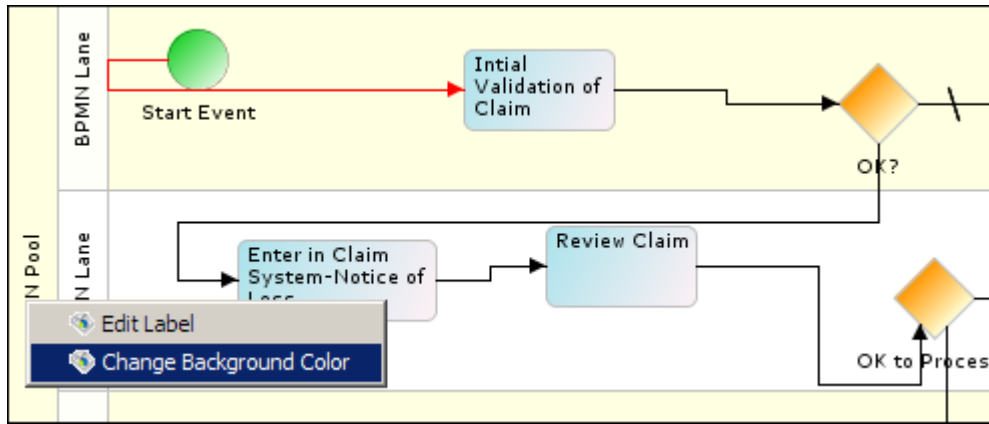

Figure 30: Change Background Color
1. Right-click the Pool and select **Change Background Color** option (see Figure 30).